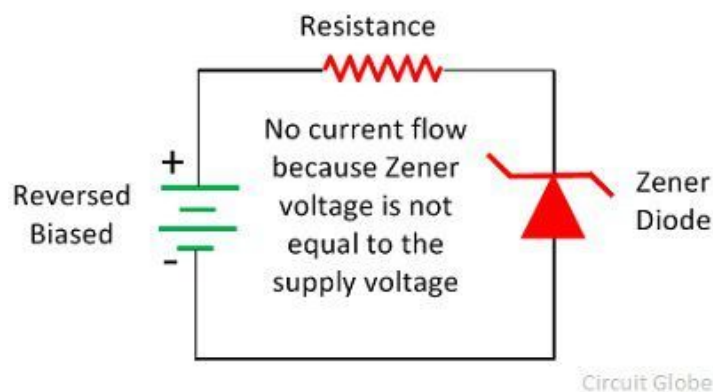

Figure 2. Working of zener diode
- Figure 2. Working of zener diode